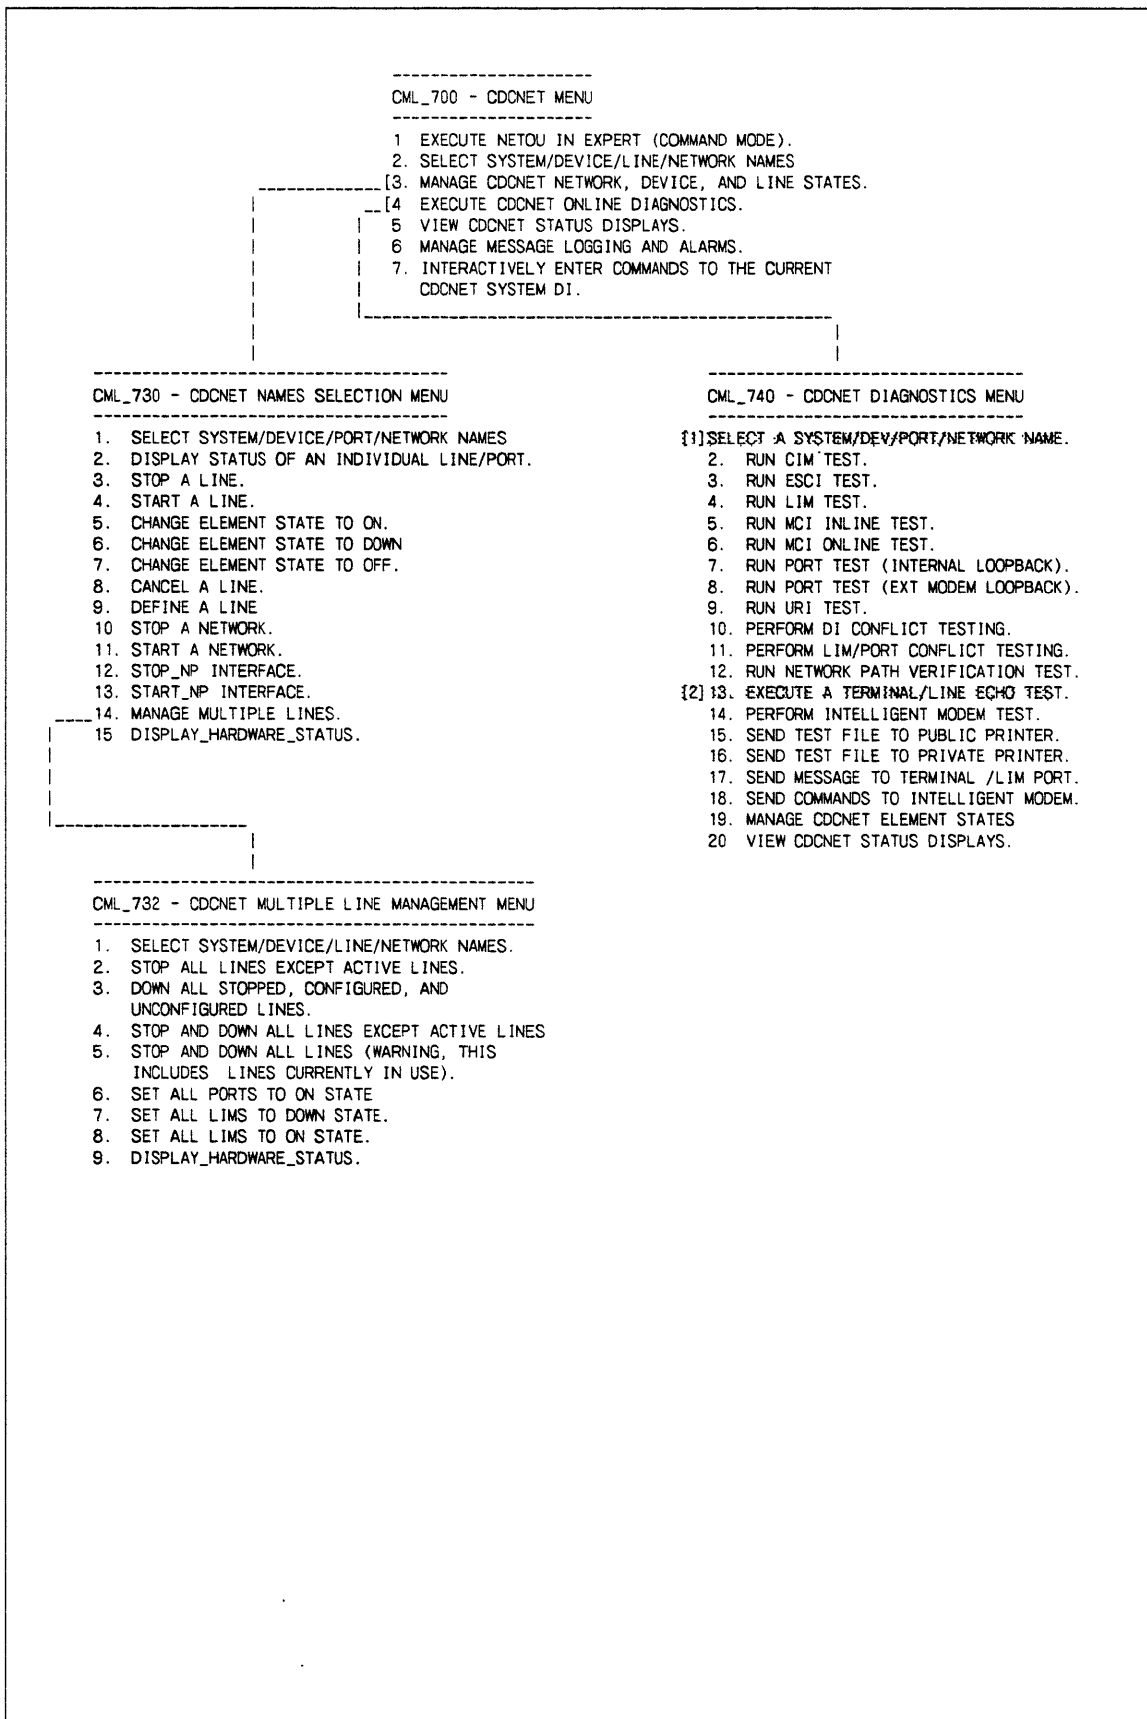

Figure 6-37. CML/VE Menus for Terminal/Line Echo Test
The following shows the CML/VE menu choices necessary to run the terminal line/echo test. Each menu choice is shown on figure 6-37 and described below. The purpose of this topic is to serve as a quick reference for the most frequently used menu selections. See chapter 4 for a complete description of CML/VE. Familiarize yourself with the test notes and procedure given earlier in this topic before running the test.
1. Numbers in this column correspond to the bracketed numbers (for example, [1]) on figure 6-37.